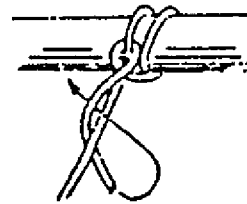

Fig. 3-30-3
- c. Pass this end again over the standing part of the rope to hang down to the left. (Fig. 3-30-3)